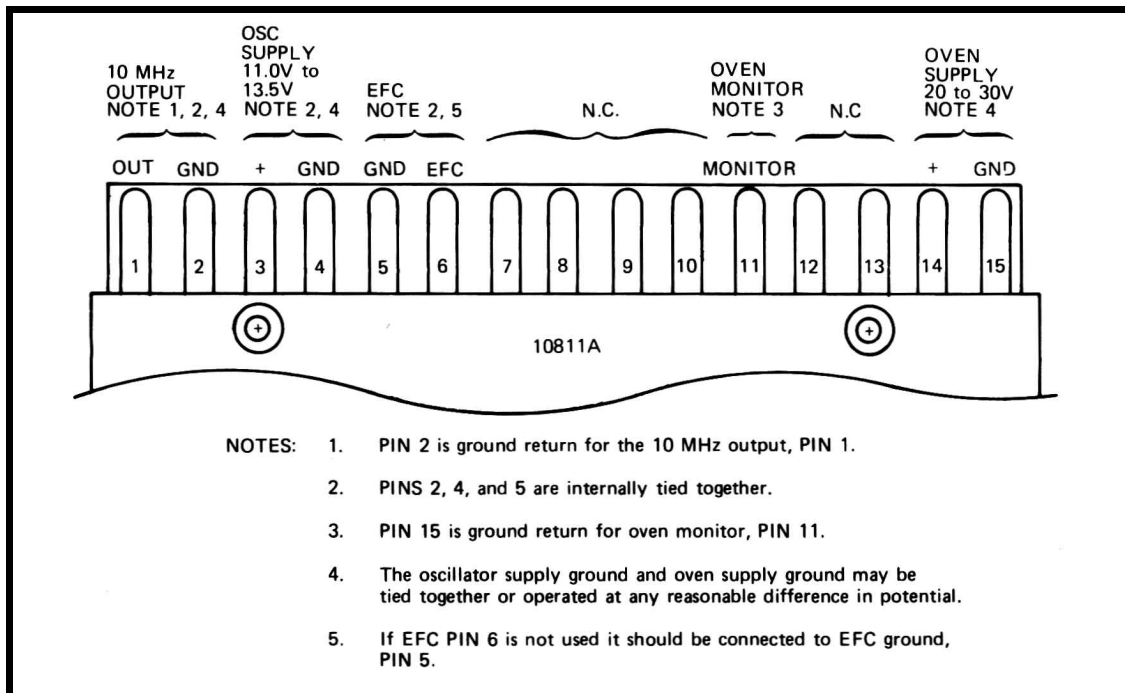
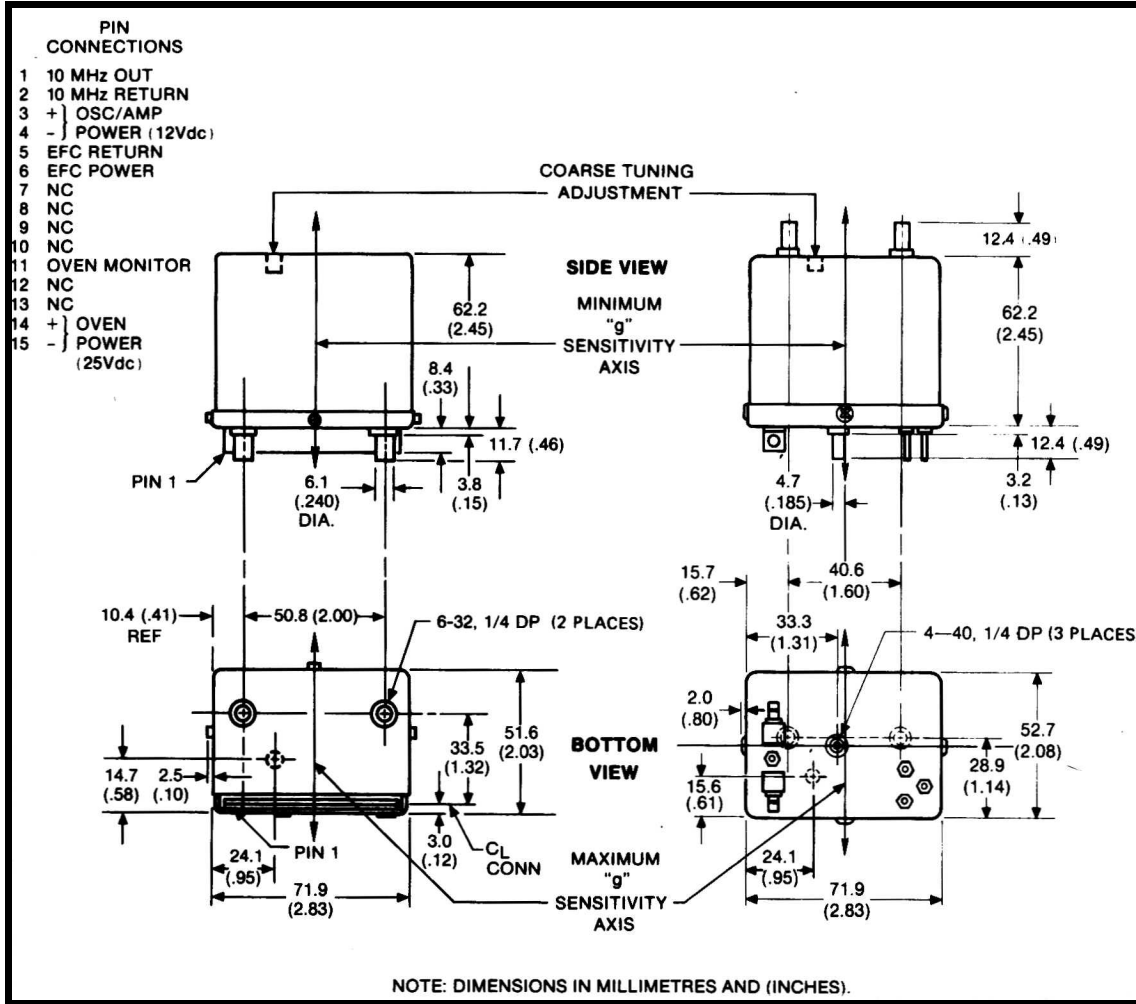

Figure 2-3. 10811A Supply and Output Connections
Figure 2-5. Mechanical Mounting Dimensions
2-21. The 10811A Oscillator requires a 0.156" C-C 15-pin printed circuit connector. The recommended connector is the CINCH 250-15-30-210 50-30S-30 (HP 1251-0160), Vishay/Dale (HP 1251-2035) EB81-BN15TGW, EDAC 305-030-500-202 (Mouser 587-307-030) or 305-030-520-202. The 10811A can be secured with two 6-32 screws, 1/4-inch long. Figure 2-3 shows the power supply connection for the 10811A. Figure 2-5 shows the mechanical mounting dimension for the 10811A and 10811B.
2-24. Figure 2-5 shows the mechanical mounting dimensions of the 10811A/B Oscillators for use in custom installation. Since all quartz oscillators are sensitive to shock, vibration, radiation fields, and ambient temperature changes, to obtain the best performance from your 10811A/B, these factors should be taken into consideration. To optimize performance therefore:
1. The 10811A/B should be mounted in an area that has a minimum amount of vibration or shock accelerations. In addition, the 10811A/B should be mounted so that the vibrational forces act along the "minimum G sensitivity" axis shown in Figure 2-5.